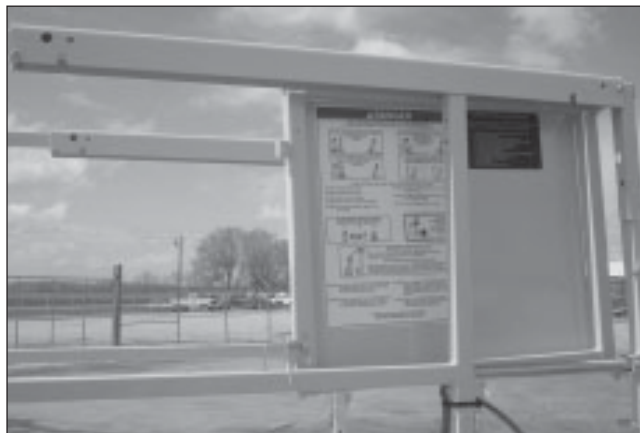

Figure 9.9 – Front Panel Fastened to Mid Rail
- Fasten the front panel to the mid rail on the right side of the platform (refer to Figure 9.9) using the bottom pin.